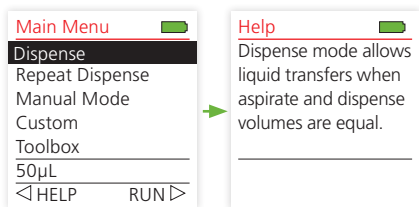

Figure 39. Help option.
**1 With the desired mode highlighted on the Main Menu**, press  $\triangleleft$  to select the HELP option. Press  $\triangleleft \triangleright$  to return (Figure 39).